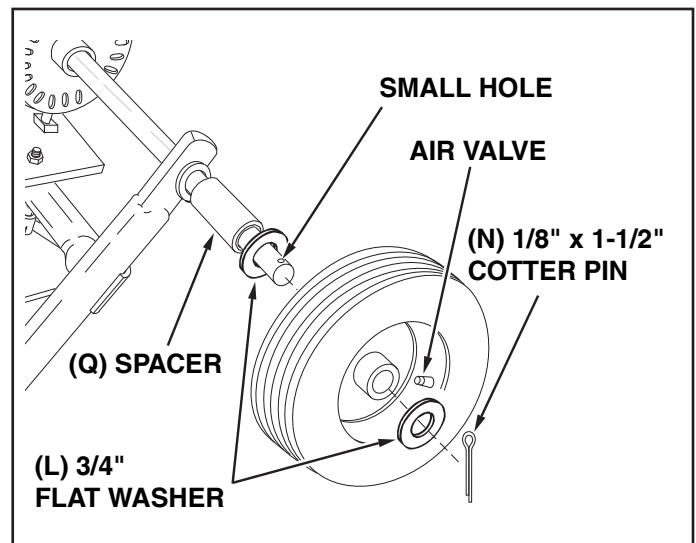

FIGURE 3
7. Assemble a spacer (Q), a 3/4" flat washer (L), a wheel (air valve facing out) and another 3/4" flat washer (L) onto the end of the axle that has only the **small hole**. See figure 3.
8. Install a 1/8" x 1-1/2" cotter pin (N) into the hole in the axle. See figure 3.